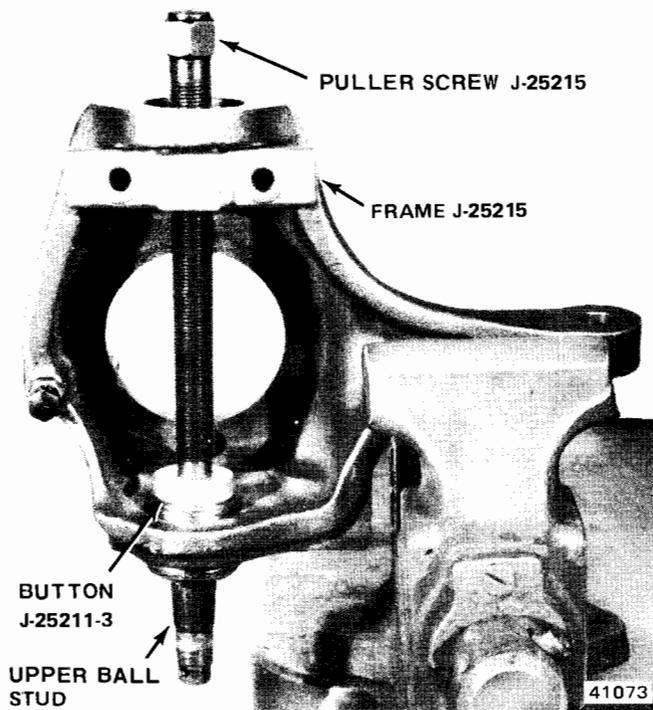

Fig. 10-8 Upper Ball Stud Removal
(4) Disassemble Puller J-25215. On CJ models, install Adapter J-25211-4 on puller screw with adapter shoulder toward head of screw. Thread puller nut about halfway onto screw. Place Button J-25211-3 on upper joint and install puller in knuckle (fig. 10-8). Tighten screw to remove upper ball stud.